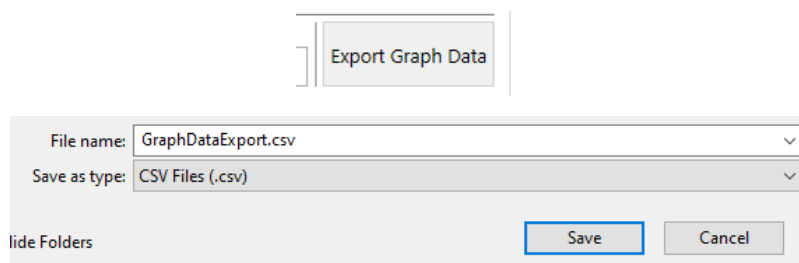

Figure 155. Save Displayed Data
4. Click on the “Export Graph Data” button (Figure 155).
5. Browse and save the file to a location (Figure 155).